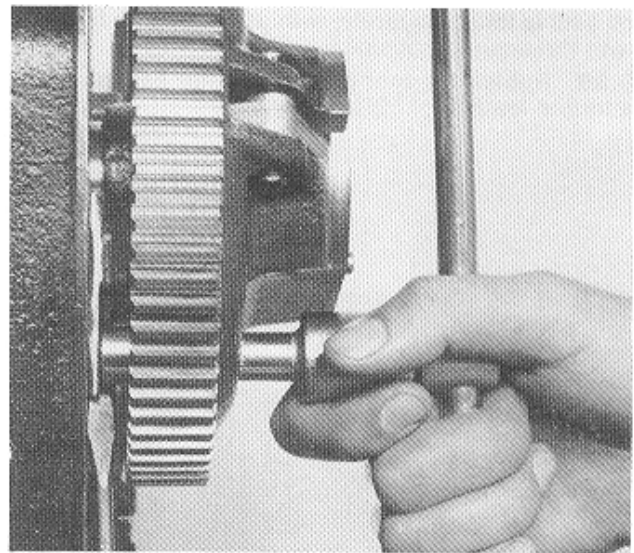

Figure 5.25 Locating the Camshaft Thrustplate
- (4) With the shaft in position lift up the thrust plate as shown in Figure 5.25, ensuring that the upper edge of the thrust plate locates in the machined groove in the camshaft. Tighten the two holding screws which are accessible through holes in the gearwheel.